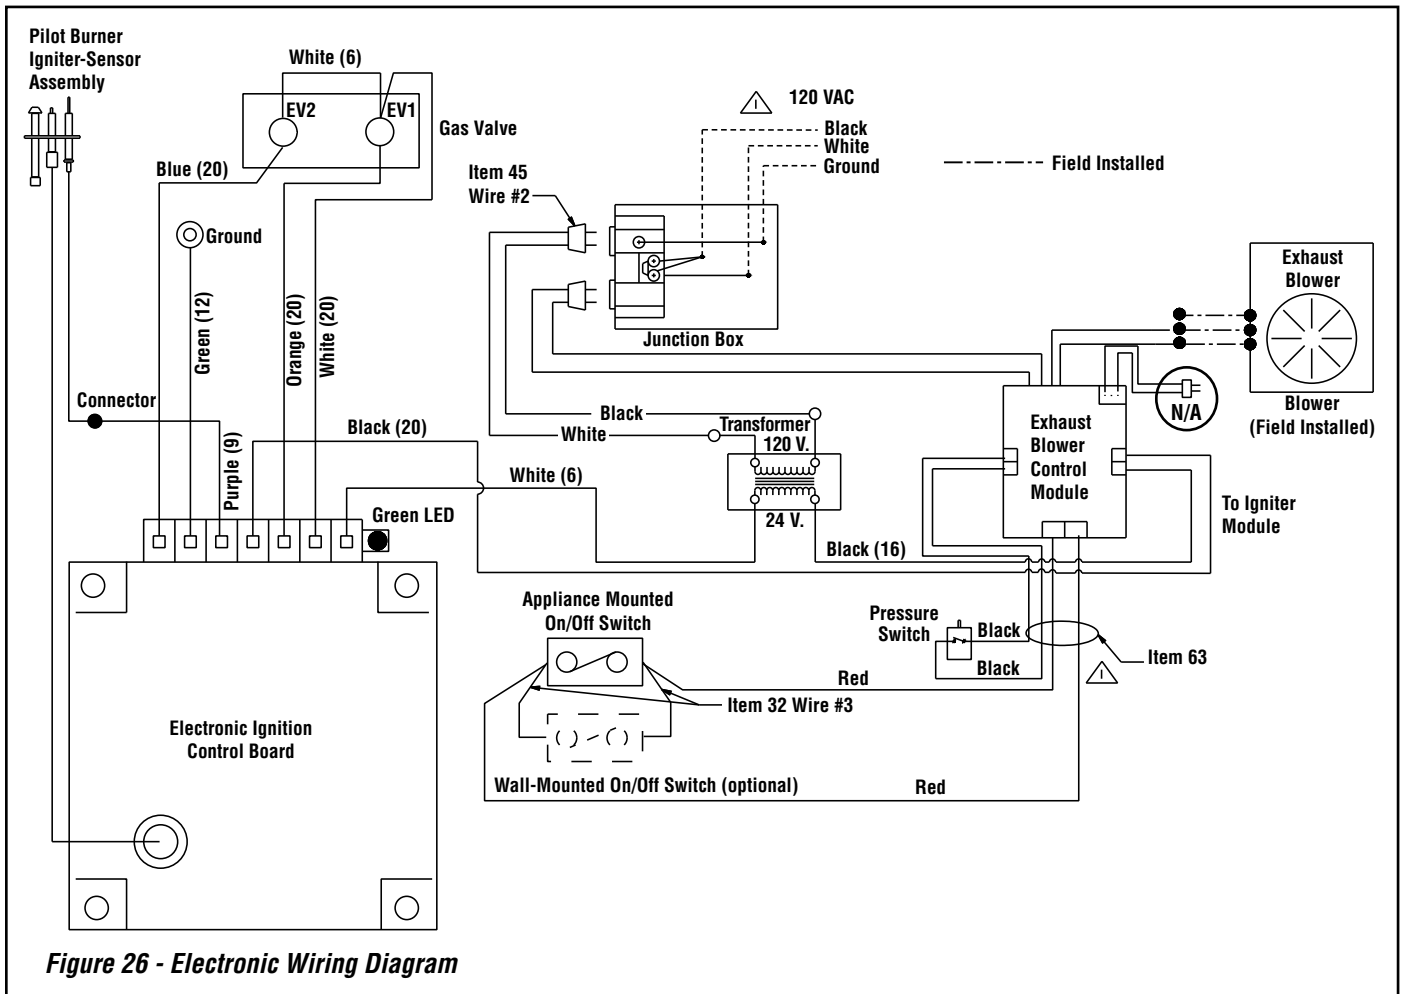

Figure 26 - Electronic Wiring Diagram
CAUTION: Ground supply lead must be connected to the wire attached to the green ground screw located on the outlet box. See *Figures 26 and 27 on Page 20*. Failure to do so will result in a potential safety hazard. The appliance must be electrically grounded in accordance with local codes or, in the absence of local codes, the National Electrical Code, ANSI/NFPA 70-latest edition.
Wiring - Fireplace (See Figures 26 and 27 on Page 20)
4. Connect the black power supply wire to the power outlet's red pigtail lead and the white power supply wire to the common terminal of the outlet as shown in Figures 26 and 27 on Page 20.
8. If an optional control is to be used, wire it in the low voltage circuit (see Figure 26 on Page 20).
- Refer to Figure 26 and install the electrical hardware on the fireplace end of the Romex wiring. Male terminals (#10) on the Black and White wires, and ring terminals (#9) on the ground wire. The termination end of the Romex will be connected to the termination with wire nuts (not provided).